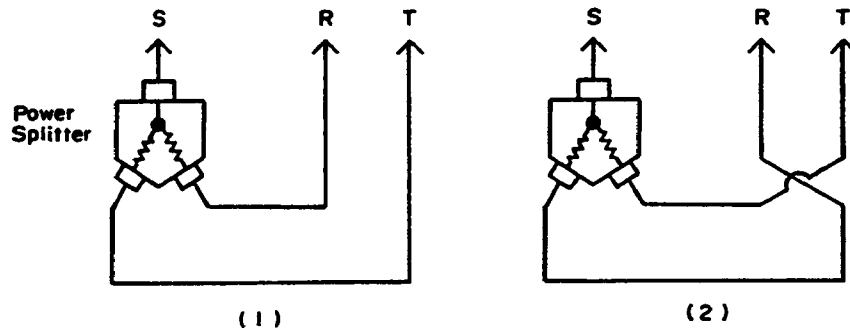

Figure 4-1. Power Splitter Connection
2. Connect the Power Splitter to the Network Analyzer, as shown in Figure 4-1 (1).
4. Swap the cable connection with the Adapter at the Network Analyzer's INPUT port (do not try to swap the cables at the Power Splitter's OUTPUT), as shown in Figure 4-1 (2).